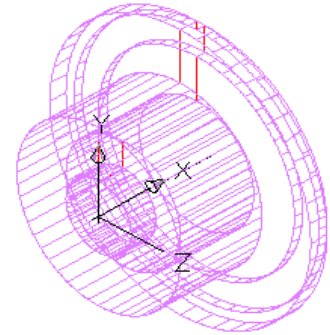

Figure Step 9
Step 9 Change the current layer to Solid and enter the REVOLVE command as shown below. After you complete the command, your model should appear as shown in Figure Step 9.